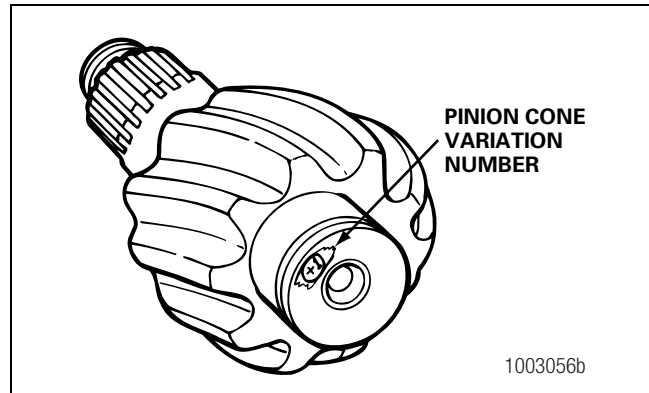

Figure 5.25
2. Find the pinion cone (PC) variation number on the drive pinion you'll replace. Figure 5.25. Record the number. The pinion cone number can be one of the following values.